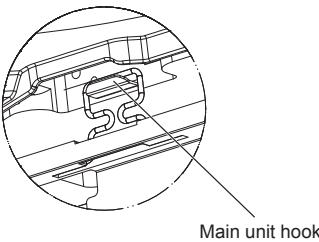

Fig. 10-5
- Align the screw holes in the corners of the grille with the screw mounting holes in the corners of the main unit, latch the two hooks on the grille onto the drain pan projections on the main unit, and temporarily hang the grille. (Fig. 10-5)
- After tightening the screw, confirm that the two grille hooks (Fig. 10-5) are latched onto the hooks on the main unit.